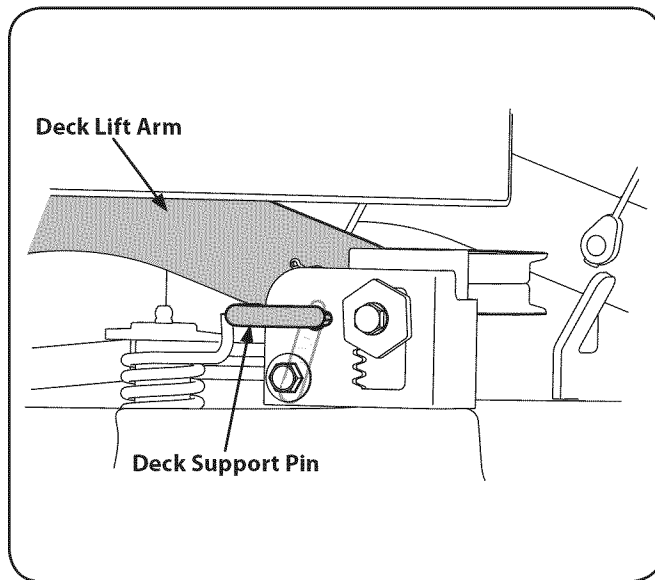

Figure 7-1
3. Looking at the cutting deck from the left side of the tractor, locate the deck support pin on the rear left side of the deck. Refer to Fig. 7-1.
4. Pull the deck support pin outward to release the deck from the deck lift arm. Pivot the support pin handle downward to lock the pin in the disengaged position. Refer to Fig. 7-1.
5. Move to the right side of the tractor and repeat the previous step to release the deck from the RH lift arm. Fig. 7-1